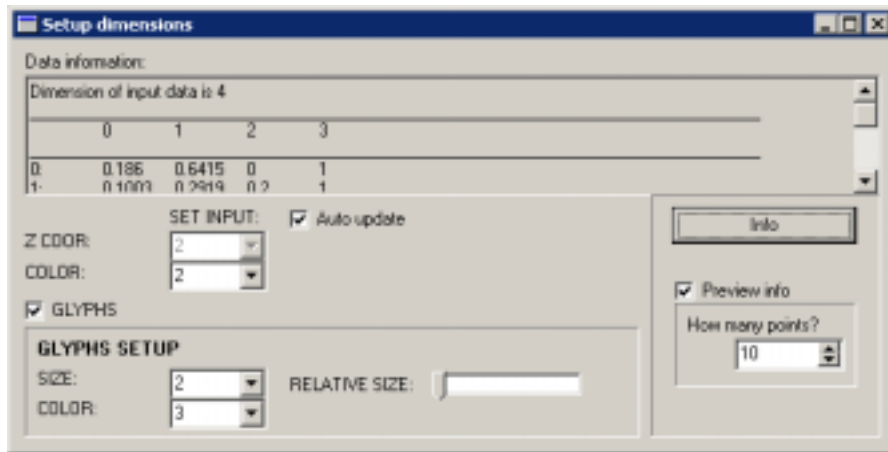

Figure 5.3 : *Set up dimensions window*
Here is the explanation of important function in the Set up dimensions window (Figure 5.3)
*Colouring* - After choosing this tool a new dialog appears (Figure 5.3). Text in upper left corner is informative and is possible to change it by double clicking on it. The check box activates and deactivates colour substitution. The colour bar represents current substitute colour, which can be changed by clicking on it. The graph on the right controls the method of colour mixing. Different types are accessible from popup menu. Cursors in grey gradient represent interval.